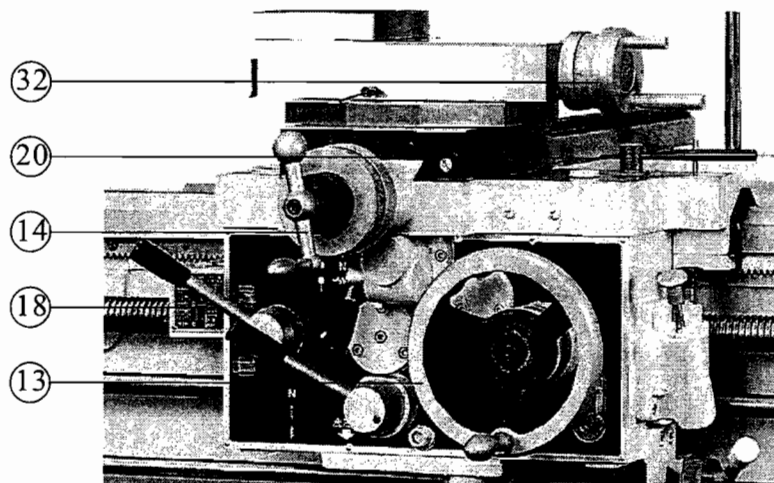

Fig. 4-8
For manual operation, move both the half-nut lever ⑰ and lever ④ of item 1-1 to neutral position. Hand wheel ⑬ on Fig. 4-8 controls the apron movement, ⑭ controls the cross slide and ⑳ control the compound. The graduations on the dials are graduated in both metric and inch. Metric is 0.02mm per graduation and inch is 0.001" per graduation.